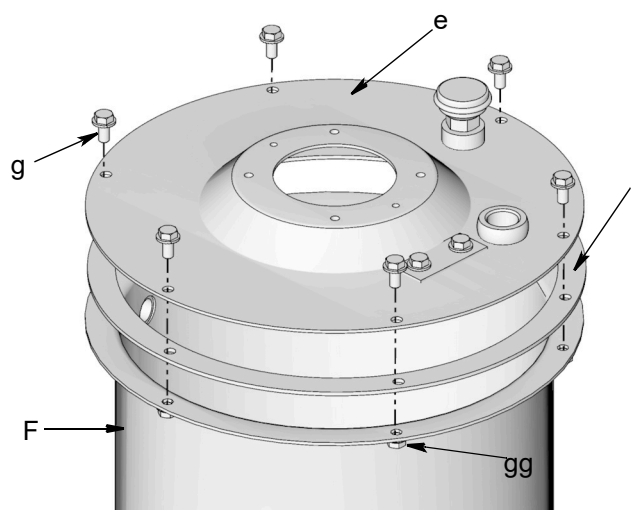

FIG. 5
5. Remove the bolts (g) and nuts (gg) (holding the cover (e) to the reservoir (F) (FIG. 5). Save these parts to use for installation.
6. Remove cover (e) and gasket (j) (FIG. 5). Save these parts to use for installation.